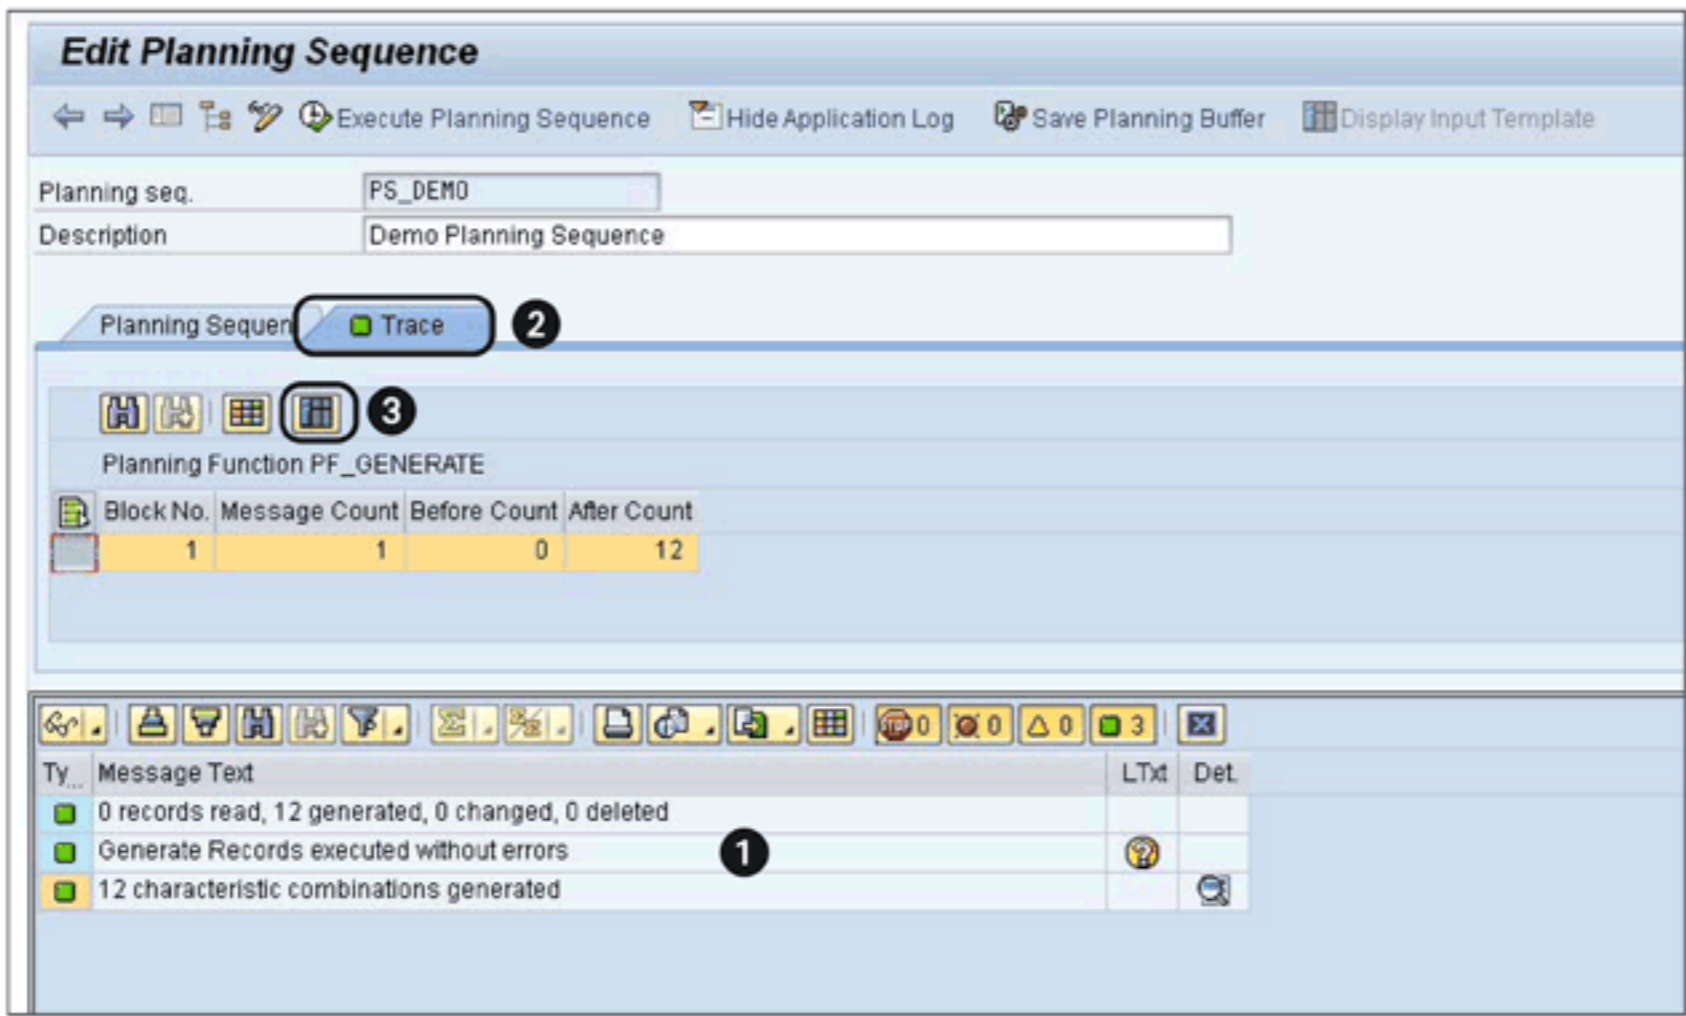

Figure 12.55 System Messages
After you execute the planning function, you can see the system messages displayed at the bottom part of the screen (❶ of Figure 12.55). This lets you know whether the planning function has been executed successfully.
If you execute the planning function with trace, then the trace information is available under the TRACE tab (❷ of Figure 12.55).